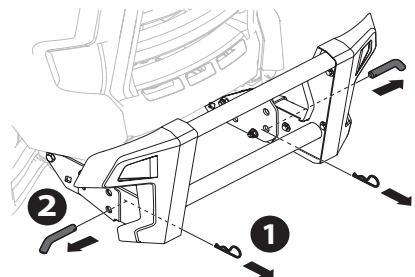

Figure 57
1. Remove two cotter pins, and then pull the pins (Figure 57).